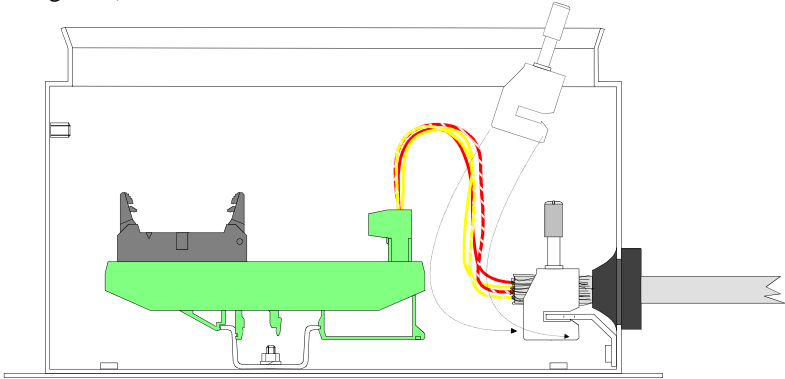

Figure 4 : Correction connection of cable and shield
5. Press the cable through the hole until the shield is through to the other side of the shield bar, then mount the cable relief over the cable (see Figure 4).
The cables should be twisted pair with plaited shield with min. 80% cover. It is very important that the cable shield is connected properly at both ends of the cable. See Figure 4 for shield connection instructions.